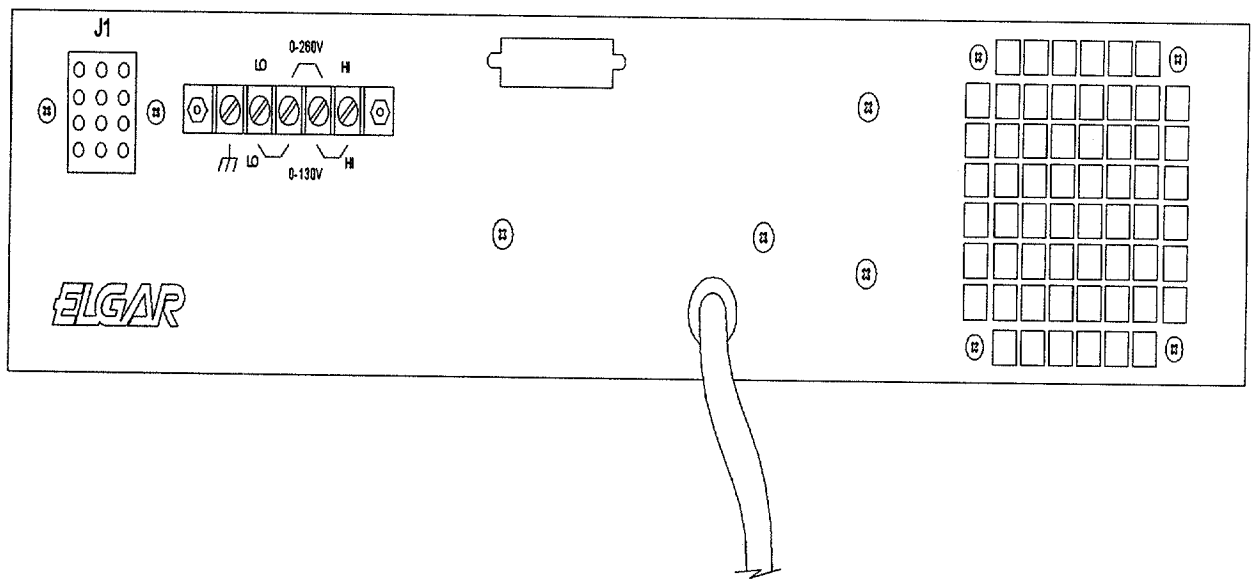

Figure 3-1. Rear Panel
3. Connect the load to the appropriate terminal of the rear panel power output terminal block (see Figure 3-1). For bench mounted applications, the front panel binding posts may be used for either 0-130VAC or 0-260VAC output voltage ranges.